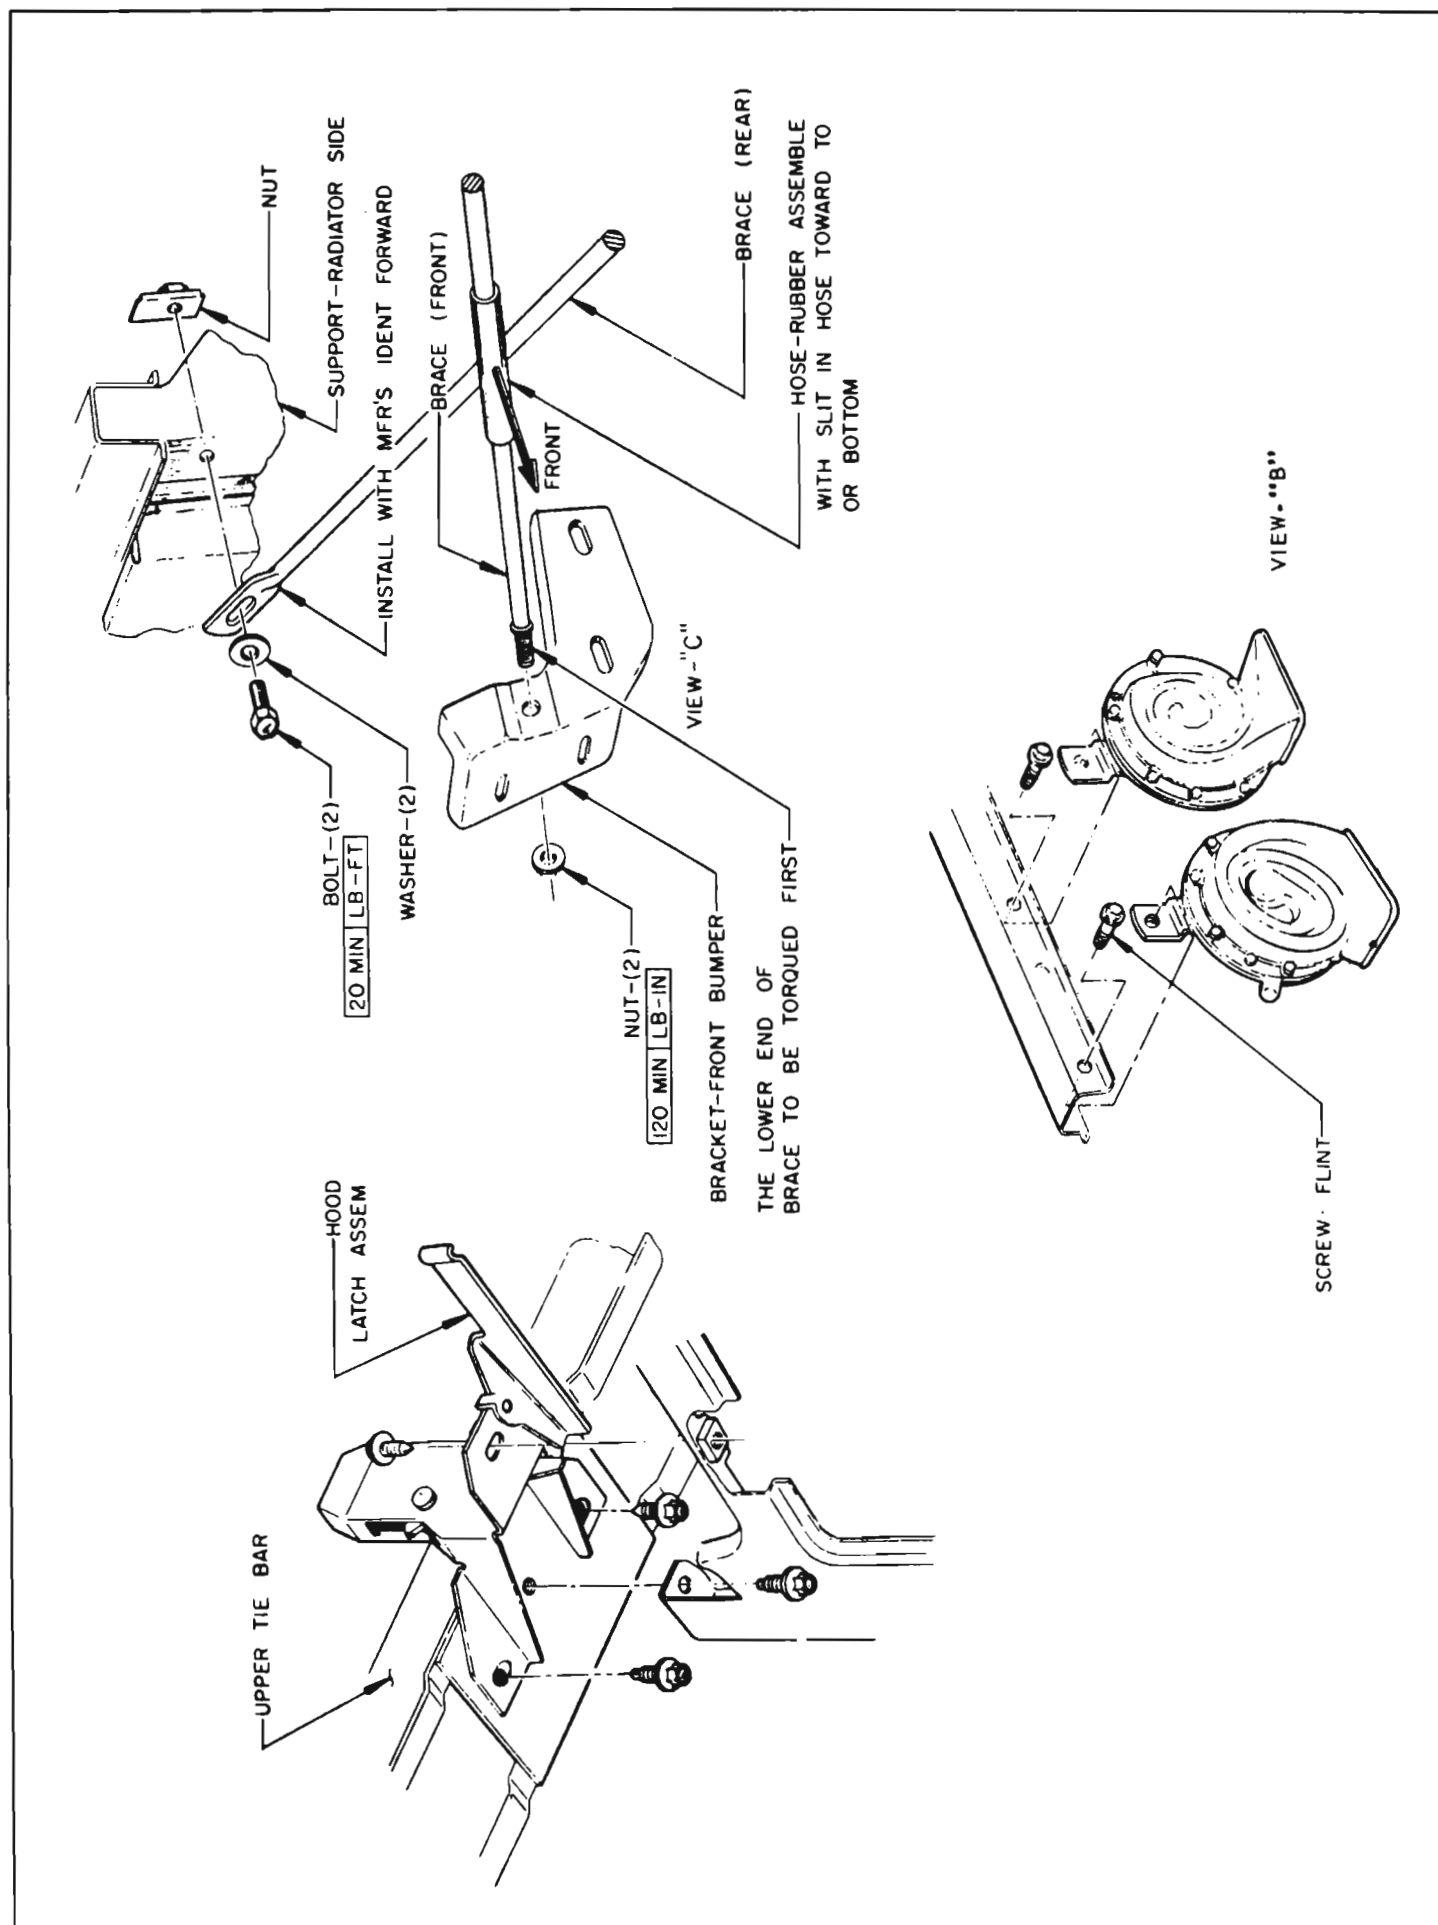

Figure 12-12—Hood Latch Installation
3. Scribe position of the hinge attachment on wheelhouse. Remove the two bolts attaching the front of the hinge to the wheelhouse (Figure 12-12) and remove the hinge.